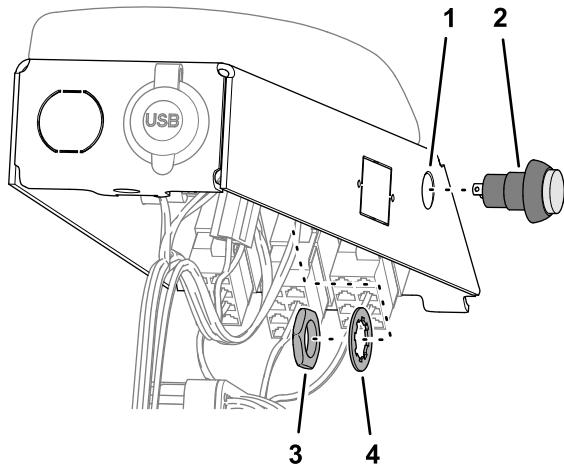

Figure 97
1. Insert the push-button switch into the hole in the arm panel (Figure 97).
2. Secure the switch to the panel with the lock washer and jam nut that came with the switch (Figure 97).